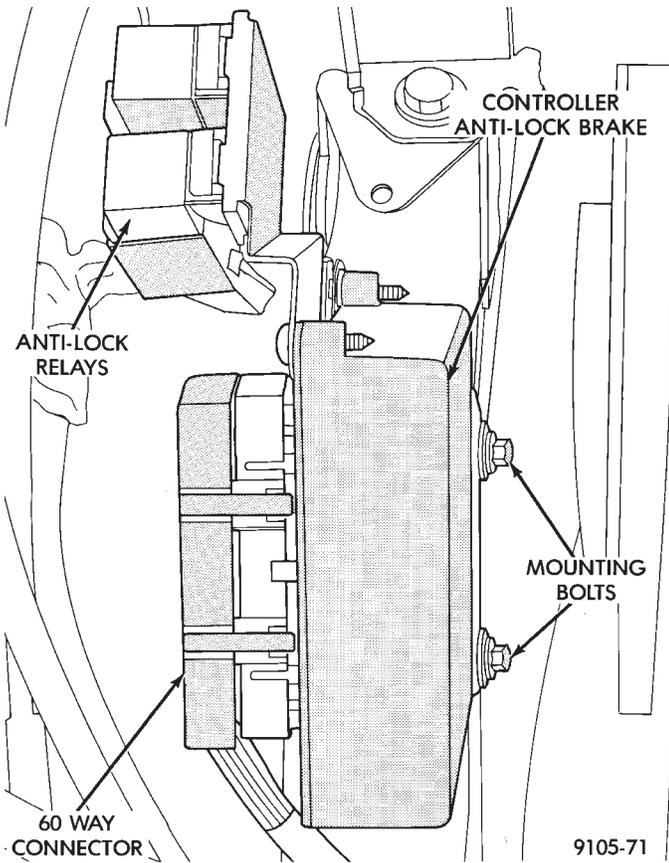
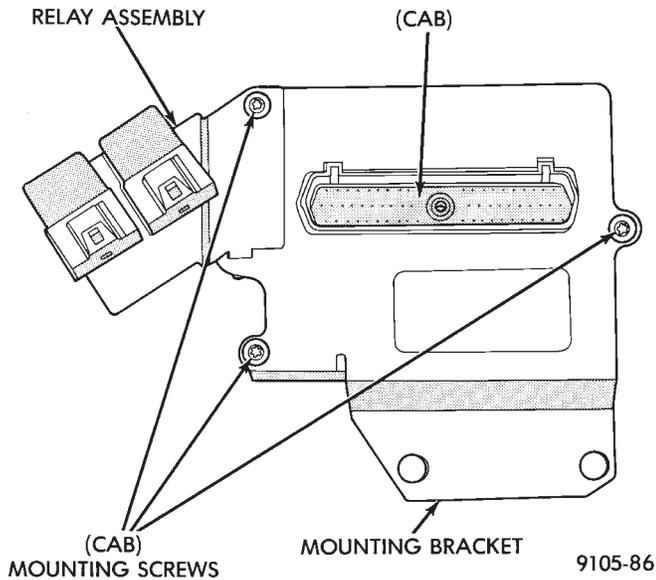

Fig. 6 Location Controller Anti-Lock Brake (CAB)
Fig. 7 (CAB) Removal From Mounting Bracket
- (1) Turn vehicle ignition off.
- (2) Disconnect the wiring harness connectors from the Anti-Lock relays (Fig. 6). Relays will be removed as part of the (CAB) bracket.
- (3) Disconnect the wiring harness 60 way connector (Fig. 6) from the Controller Anti-Lock Brake Module (CAB). **VERIFY THAT THE VEHICLE IGNITION IS OFF BEFORE REMOVING THE 60 WAY CONNECTOR.**
- (4) Remove the 2 (CAB) module bracket, to frame rail mounting bolts (Fig. 6).
- (5) Remove the (CAB) module from the vehicle.
- (6) Remove the 3 (CAB) to bracket mounting screws and remove the (CAB) from the mounting bracket (Fig. 7).